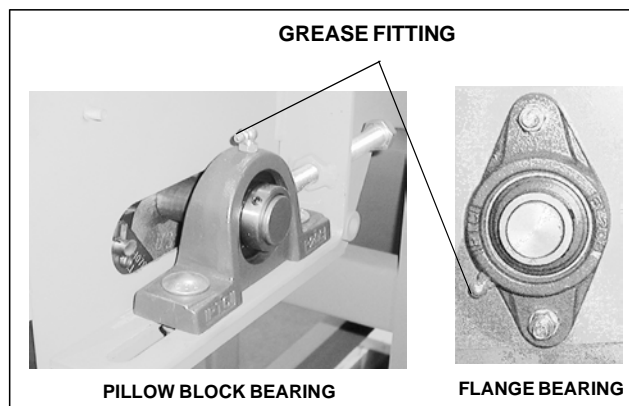

**Figure 21. Seal Capscrew Removal**
7. After removing the Seal Inspection Covers, manually rotate the drum until one of the Tie Rod cap screws is in-line with the seal inspection opening. Push the seal upwards until the capscrew securing the tie rod is exposed, Figure 21. Remove the capscrew.